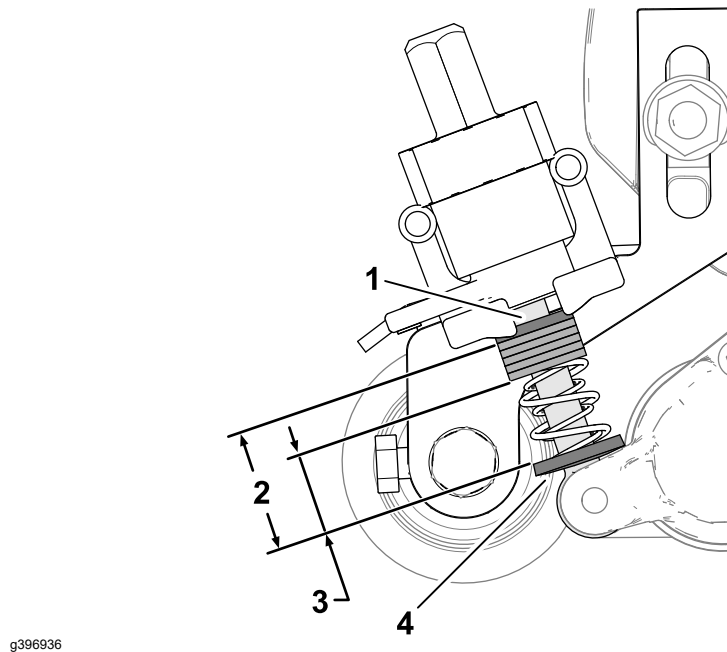

Figure 132
17. Measure the distance between the washers (the current spring length) as shown in Figure 132.